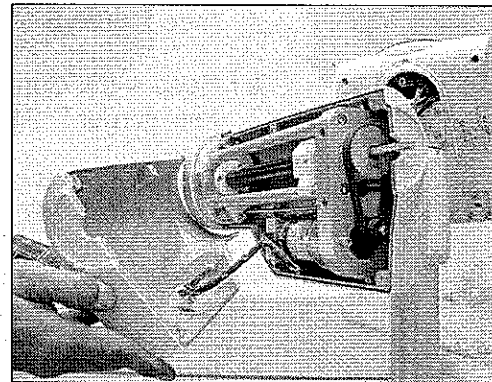

Figure 5-12b: Removing the Rear Enclosure
5. Gently slide the Rear Enclosure towards the rear of the Injector Head and pull away a few inches (see Figure 5-12b).